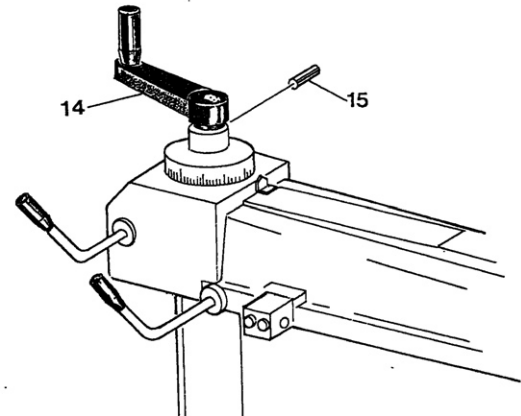

Fig. 4
4. Remove the cover (16) from the top of the arm (see fig. 4)